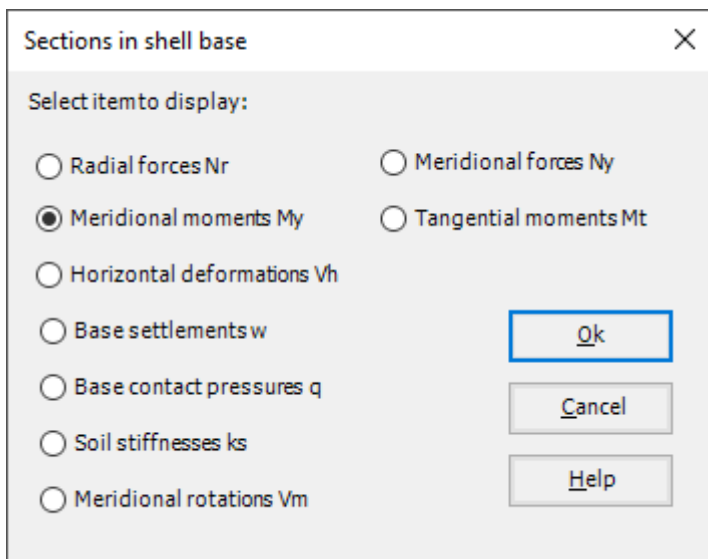

Figure 8.27 "Sections in shell base" option box
- Choose "Sections in shell base" command from "Section" menu. The following option box in Figure 8.27 appears